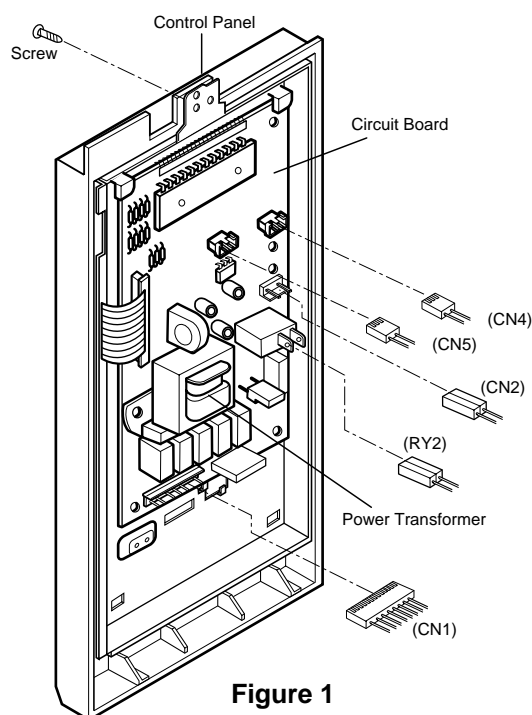

Figure 1
A. REMOVING POWER AND CONTROL CIRCUIT BOARD (Figures 1, 2 and 3)
- (1) Remove a screw securing the control panel assembly to the oven cavity.
- (2) Remove the control panel with pushing it upward.
- (3) Remove the connectors (CN1), and sensor (CN5) wire leads (RY2, CN2, CN4) from the circuit board.